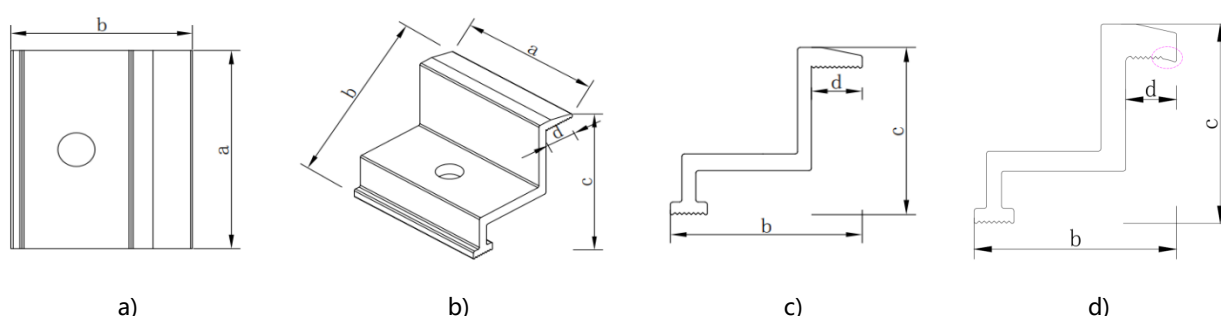

Figure 6 Recommended clamp schematic
The clamps must not be installed in contact with the front glass of the module and must not deform the module frame. Recommended clamp schematic shown as followed (see Figure 6). Ensure that the clamps do not create a shadow on the module. Under no circumstances may the frame be altered. When choosing the mounting method for the clamps, make sure that there are at least four clamps on each module. Different mounting positions of the clamps determine the maximum load capacity of the module. Table 5-7 as followed show the different mounting methods and the positions of the clamps for the different mounting methods. The distance between the installation position of the long-side clamp and the edge is represented by L in Table 5-7. The distance between the installation position of the short-side clamp and the edge is represented by S in Table 5-7. Both L and S refer to the distances from the center of the clamp to the corresponding edges.
- Modules with a length greater than 2.2 m and a width greater than 1.3 m are recommended to be mounted with the camber clamps shown in Fig. 6 d), which enables the clamps to fit better with the frame and provide more stable performance under extreme environmental conditions.